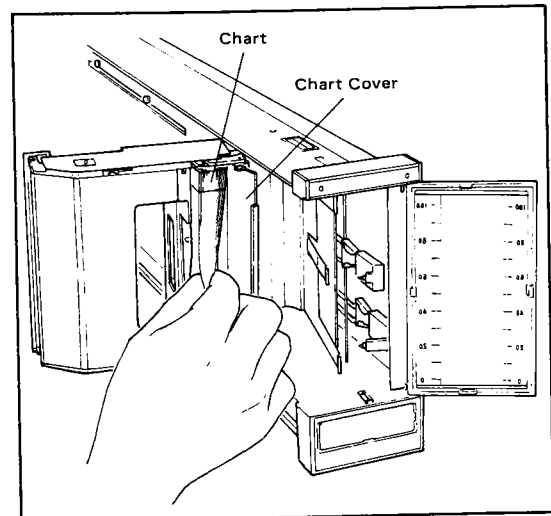

Figure 5-9. Chart Loading (1).
- (4) Open the chart cover and insert the chart paper. (See Figure 5-9).